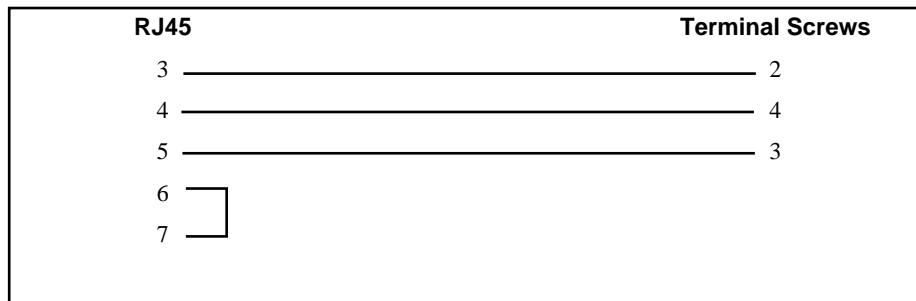

Figure 2-4 QUCM-L RS-232 to Euchner read/write head CIT3SX
After the software has been installed into the QUCM, Port 2 becomes the 3964(R) port. The connection for the QUCM to the Euchner read/write head CIT3SX is an RJ-45 connector on the QUCM side, and terminal screws at the Euchner device(Refer to Figure 2-4).